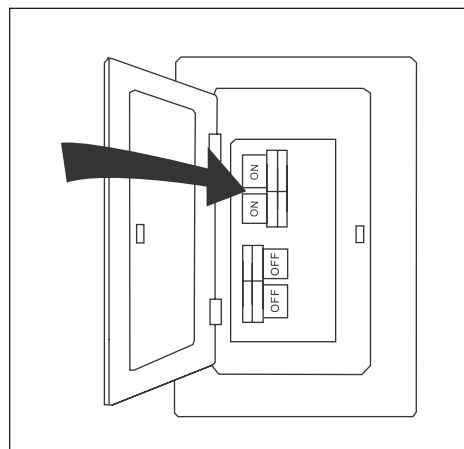

Figure 6.3
3. Turn on power to fan at breaker box and the wall switch (Figure 6.3). Assembly is complete.